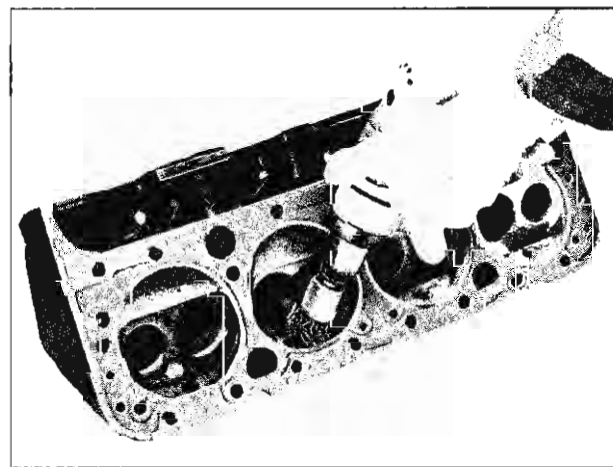

Fig. 63—Removing Carbon from Combustion Chambers
1. Clean all carbon from combustion chambers and valve ports using Tool J-8089 (fig. 63).